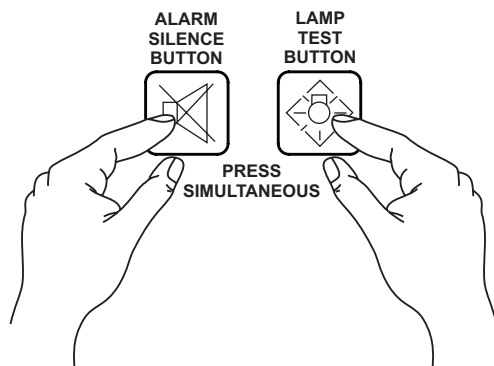

Figure 93. Alarm Silence And Lamp Test Buttons
1. Press and hold the **Alarm Silence** and **Lamp Test** buttons (Figure 93) at the same time for 10 seconds.